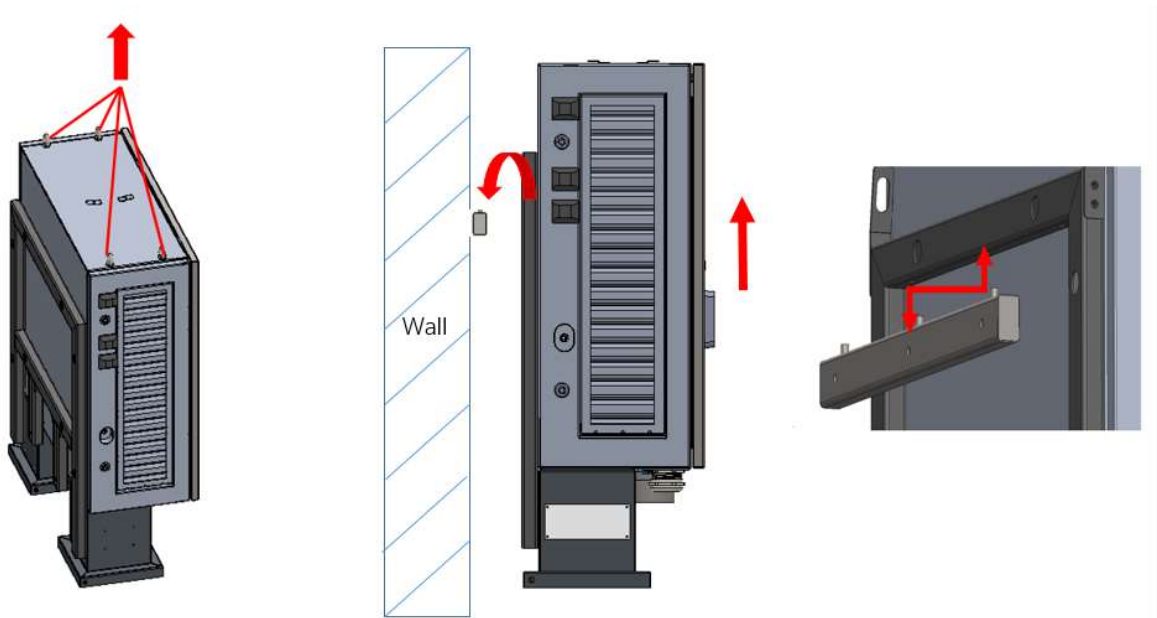

Figure 10 Wall-mounted fixing diagram 1
(3) Fix the charger main body on the mounting bracket. First, lift the charger main body to its back slightly higher than the mounting bracket with a hand crane, and move it close to the wall until the mounting bracket contacts the back of the charger main body. Move the charger main body to clamp with the three holes on the upper part of the mounting bracket. As shown in Figure 10.